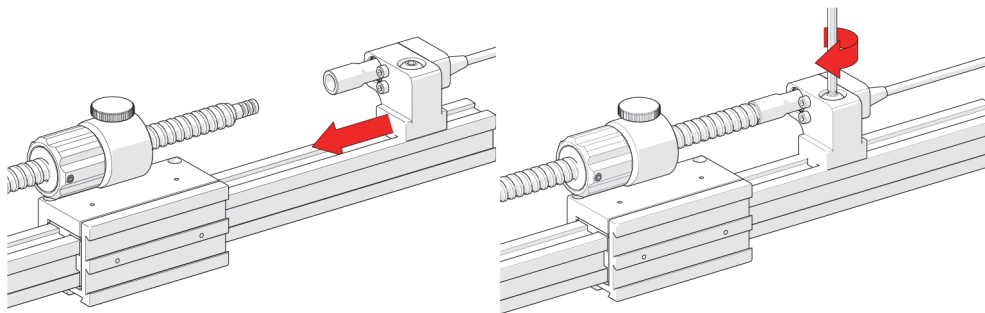

Figure 2-56 Index encoder
2. Slide the encoder's dovetail nut onto the frame bar (see Figure 2-56 on page 74), and continue sliding the encoder towards the leadscrew until the leadscrew and the encoder's coupling are attached (see Figure 2-56 on page 74).
3. Tighten the encoder's lock screw (see Figure 2-56 on page 74).